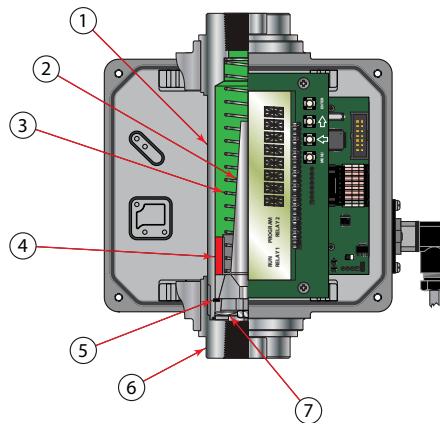

Figure 9: Cartridge components
4. Remove the inlet port cap, wave spring, retaining ring, and cone assembly from the transmitter body (Figure 9).
6. The piston, inner magnet and transmitter spring are secured within the transmitter body with a retaining ring. Remove the retaining ring with a small screwdriver, then the internal components can be removed from the body (Figure 9).